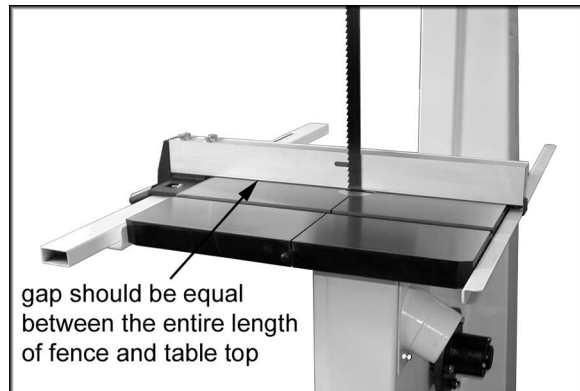

Figure 12
5. Check the clearance between the table and the fence. The gap should be the same at the front of the table as it is at the rear. If the gap width is different, adjust the foot at the rear of the fence until the gap width is the same. See Figure 12.